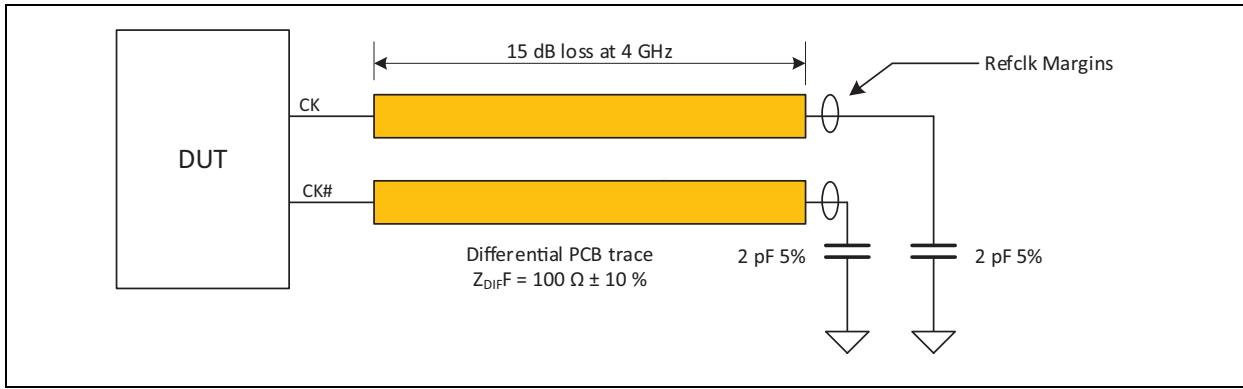

FIGURE 1-7: PCIe Test Load.
- 9:** System board compliance measurements must use the test load card described in Figure 1-7. $OUTx_p$ and $OUTx_n$ are to be measured at the load capacitors C_{LOAD} . Single-ended probes must be used for measurements requiring single-ended measurements. Either single-ended probes with math or differential probe can be used for differential measurements.
Note 1: Measured into AC test load as per Figure 1-7.